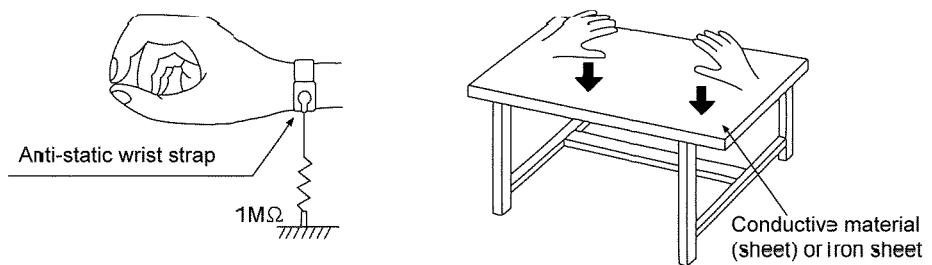

Figure 2
1. Use the anti-static wrist strap to discharge the static electricity from your body (Figure 2).